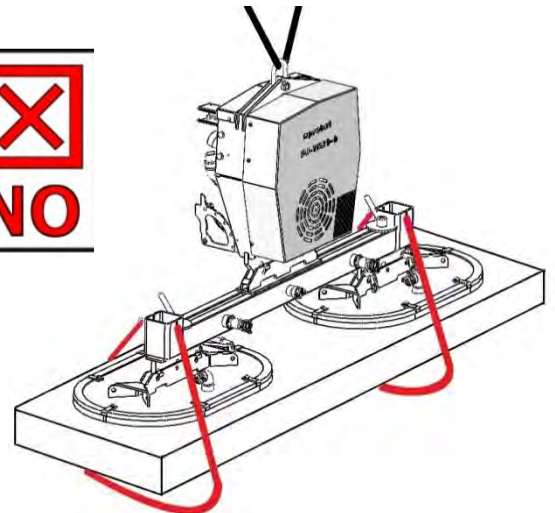

Fig. 2
**Unequal positioning of the suction plates is not permitted (see figure 2)!**
- **The safety chains must never hang loose under the load, otherwise the load may fall down, in case of a vacuum failure (Fig. 2).**